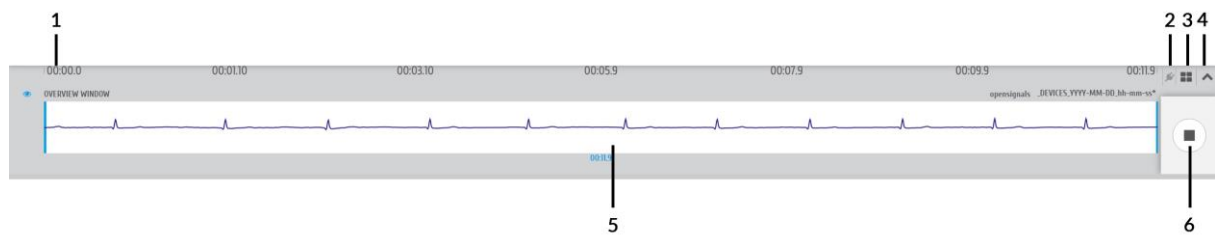

Figure 67: Control bar.
- Time axis (x-axis; 1 in Figure 67)
- Access *OpenSignals* add-ons (2 in Figure 67)
- Multi-channel visualization modes (3 in Figure 67)
- Hide/Unhide all channels (4 in Figure 67)
- Overview window (x-axis adjustments; 5 in Figure 67)
- Return to *OpenSignals*' main interface (6 in Figure 67)